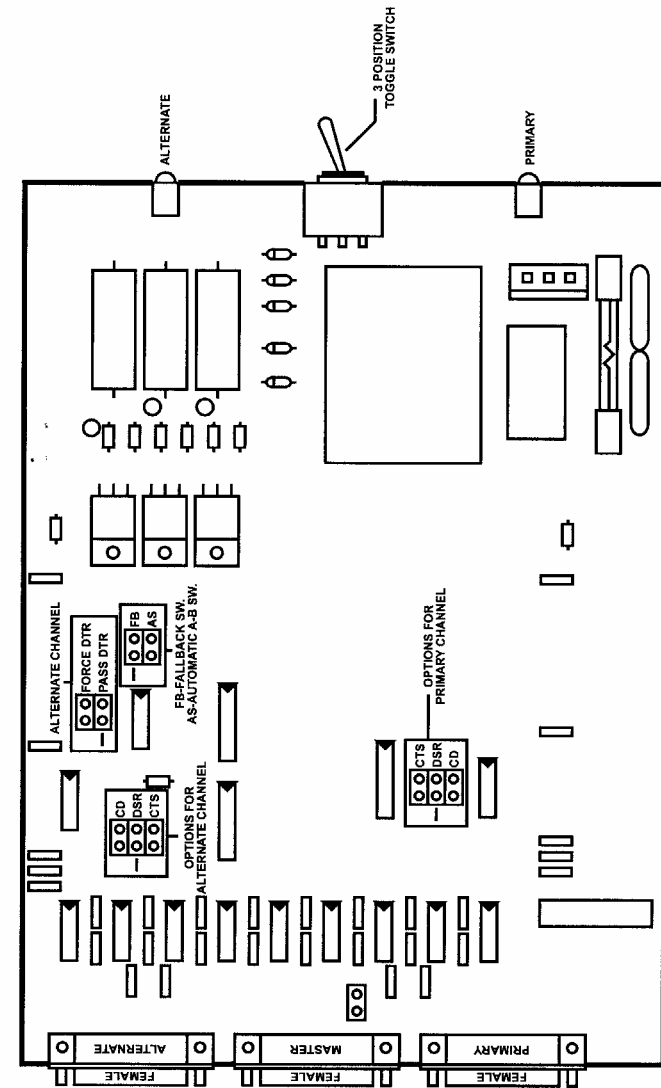

Figure 3-1. Layout of the Switch's printed circuit board.
3. Referring to Figure 3-1 on the next page, move the jumper(s) to the desired position(s).
Before you install the RS-232 Fallback Switch, you should set its internal jumpers if you need it to do anything different from its default functions. There are four of these jumpers, as described below (refer to **Figure 3-1** on page 11).